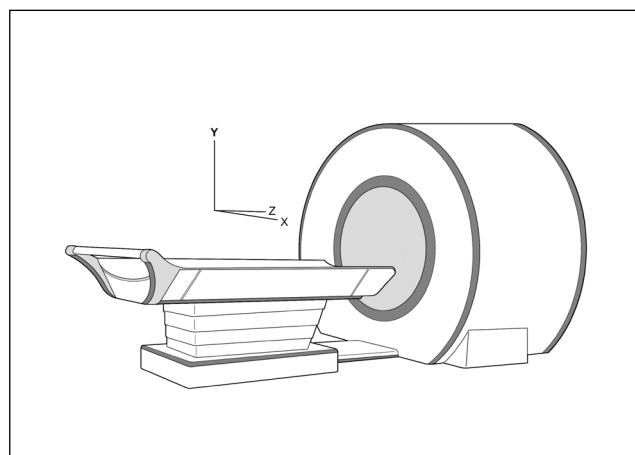

Fig. 26
- Verify the cradle can travel the full length of the “Z” axis without issue. Repeat for both mechanical and manual movement (Fig. 26).
- Verify the cradle can travel the full height of the ‘Y’ axis without issue (Fig. 26).